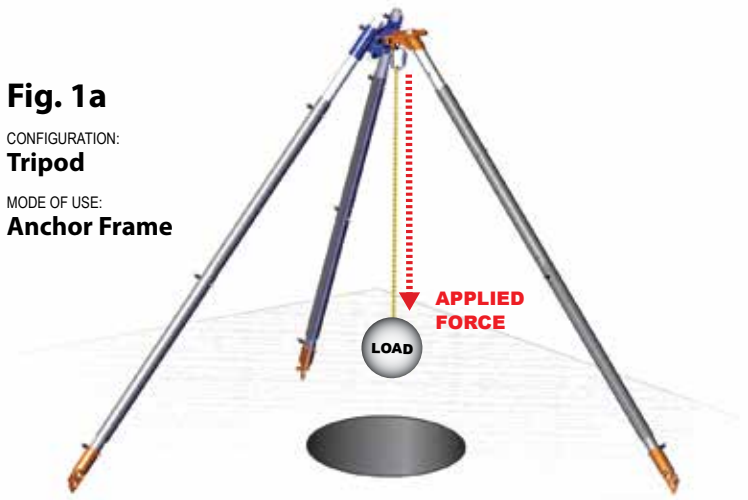

Fig. 1b
- B. Support ropes from a leg-mounted winch, through a directional pulley on the head of the frame (fig. 1b).